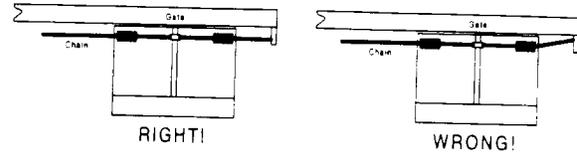

FIGURE 1.9.2B
5. Adjust the chain bolts to tighten the chain. The chain should sag no more than one (1) inch per 10 feet of travel. Do not over tighten the chain. **IMPORTANT!! Be sure that the chain is parallel to the gate (figure 1.9.2B). Installing the chain in any other manner will cause excessive noise, chain idler wear and chain stretching.**